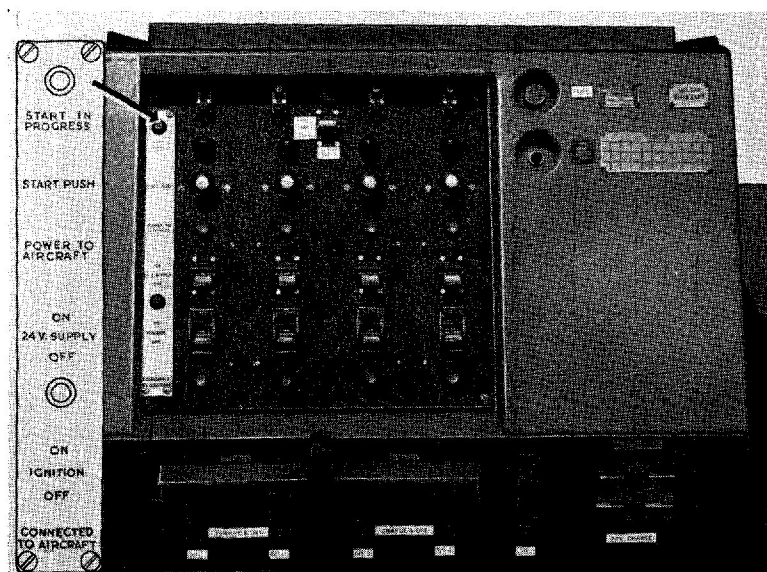

Fig. 5. Control panel
8. To permit battery charging from a standard servicing trolley having a 112V and 28V supply, each 120V battery is divided into two sections. One section comprising four batteries which are charged from the 112V supply; the remaining battery, lettered A in each bank, is charged from the 28V supply. The START/CHARGE and OFF switches, also shown in *fig. 5*, effect the necessary alteration to the battery connections. The covered N.A.T.O. plug charging points may be seen to the right of the switches in this figure. Charge limiting resistors are included in the charging circuits to afford some protection to the batteries in the event of an unnoticed upward drift in the charging supply voltage.
battery marked 24V (*fig. 3*) provides the normal supply to the control and start panels. An emergency supply for this service is provided by tapping a 24V supply from the batteries at the lower end of the 120V banks, i.e., those lettered "A". Changeover is brought about by placing the MASTER SWITCH (*fig. 5*) to EMERGENCY.
11. The control panel, which is standard for all types of trolley and is shown in *fig. 5*, carries the individual control switches and starter buttons together with three indicating lights for each of the four engine starting circuits. These components are identified by the engraved illuminated panel mounted on the left. General illumination is provided by lights fitted at the top of the panel which are controlled by the switch mounted on the right, and protected by the 2.5A fuse immediately above it. Mounted centrally at the top of the panel are a MASTER SWITCH and its green indicator light.
Aircraft engine starting (fig. 5 and 6)
16. Before connecting the plugs to an aircraft, check the trolley as follows:—Ensure that the four circuit breakers at the top of the control panel (fig. 5) are closed and place all switches listed below in the UP position.